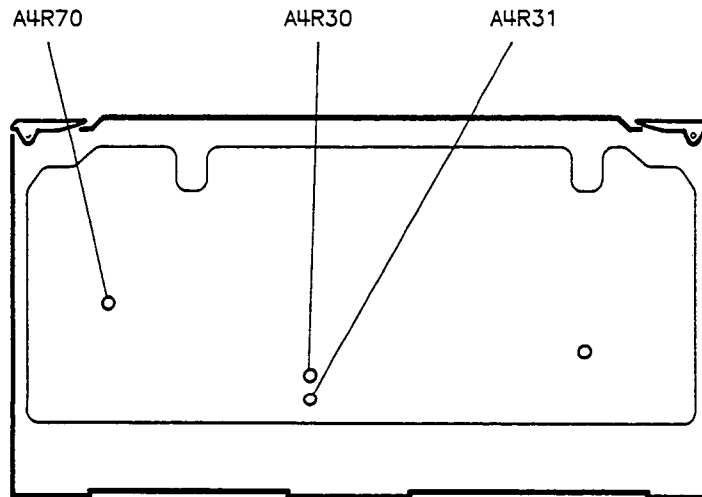

Figure 3-6. Fractional-N Reference and API Spurs Adjustment Locations
- On the synthesizer, adjust A4R70 (see figure 3-6) for minimum signal on the spectrum analyzer.
- On the synthesizer, adjust A4R31 (see figure 3-6) for minimum signal on the spectrum analyzer.
11. On the synthesizer, adjust A4R30 (see figure 3-6) for minimum signal on the spectrum analyzer.